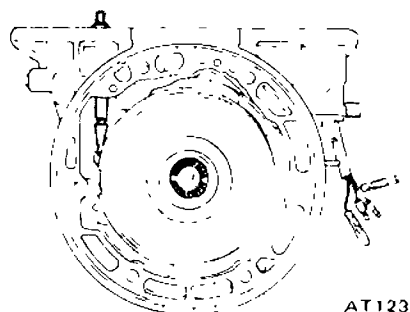

Fig AT-57 Removing band strut
- 9 Remove band strut. This can be done by loosening piston stem further. See Figure AT-57.